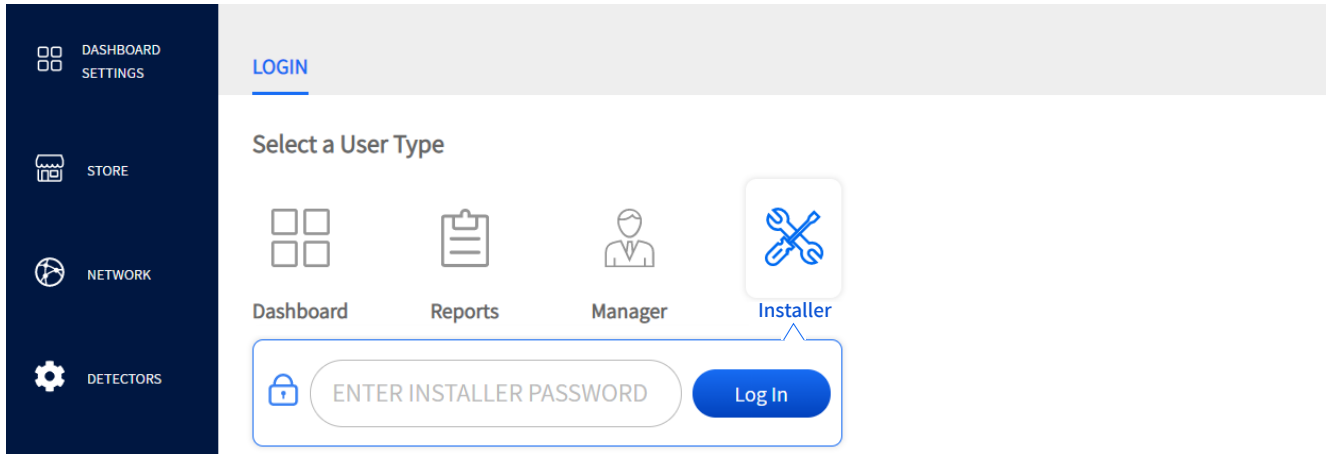
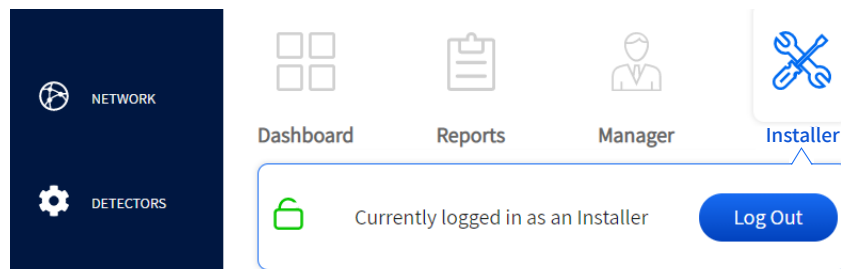

Fig. 9.1
Fig. 9.2
**Example:** Fig. 9.1 shows the Installer option selected. Once logged in, they are shown as the current user (Fig. 9.2). Clicking on “Logout” logs the current user out and causes the PASSWORD screen to disappear.